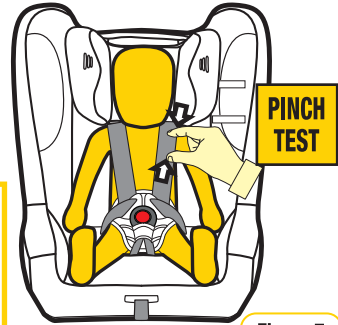

Figure 7
Step 6: Check the harness tightness by the **PINCH TEST**, this is achieved by pinching the harness webbing at the shoulders (refer Figure 7).